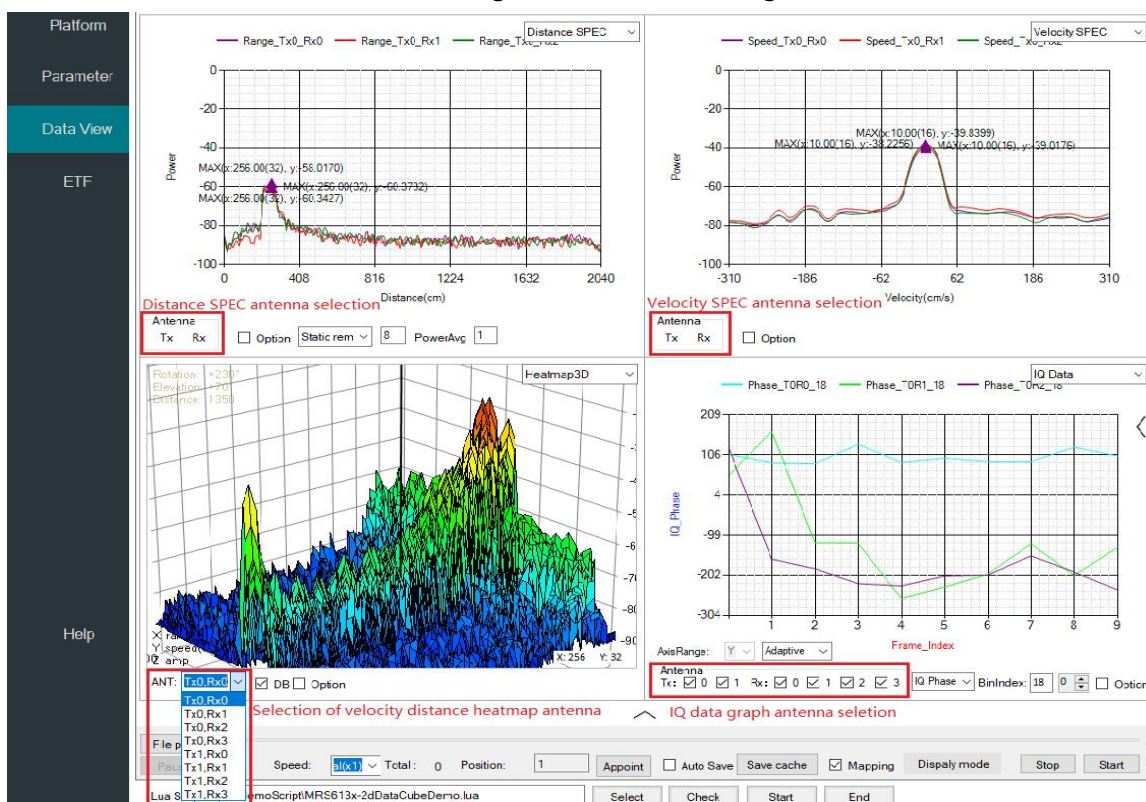

Figure 2-26 Antenna Selection
- 2、 As shown in Figure 2-26, Data View can display data from a specified antenna to facilitate debugging.